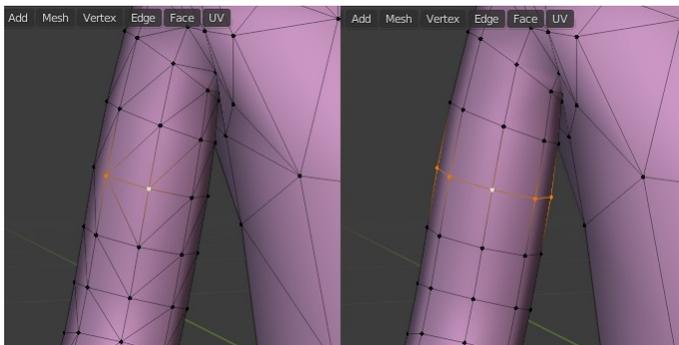

Figure 7-3 Loop Select and Loop Cut only work with quads
3. Switch back to Object mode, select the Person01 object then change to Edit mode. You will see that the body and arms are built from triangles rather than quads. This is a by-product of using the dyntopo option while sculpting. Deselect all the vertices with **ALT-A** then try to select an edge loop running round an arm with **SHIFT-ALT-LMB** on a circumferential edge. See Figure 7-3 You will find that you only select a single edge.
4. Blender can try to convert triangles to quads for you. Select all the mesh with **A** then click **Face ▶ Tris to Quads**, deselect all the vertices then retry selecting an edge loop round an arm. This time you will find it works, but note that tris to quads didn't convert all of the quads as you can see on the right of Figure 7-3.